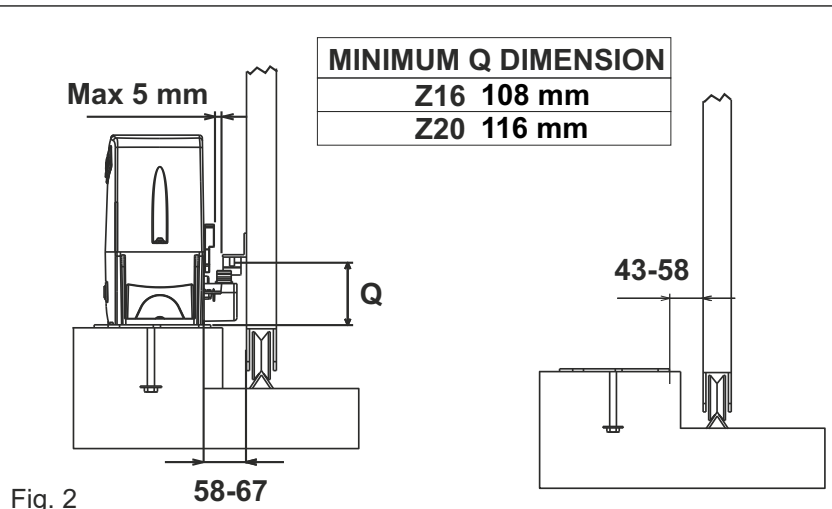
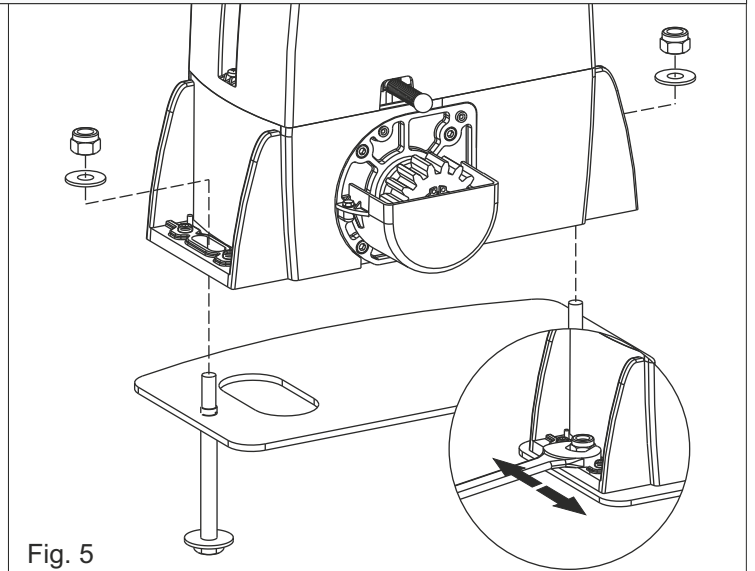

Fig. 2
Fig. 5
2.3. Before concreting the plate, make sure that it is perfectly levelled and that the distance of 58-67 mm as shown in Fig. 2 is respected
4.2. Fix the gear motor to the foundation plate using the 2 included nuts, adjusting the side position (Fig. 5) so to respect the shown quota in Fig. 2